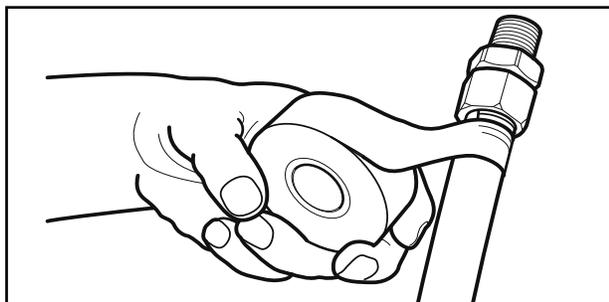

Figure: 4-5 Wrapping with self bonding silicone tape - begin on jacket.
- When installed outdoors, the plastic jacketing shall remain intact as much as practical for the given installation. Any portions of exposed stainless steel shall be wrapped with self bonding silicone tape sealing the fitting connection to prevent later corrosive attack by acid wash or chloride based compounds. (See Figures: 4-5 and 4-6).
- When **CounterStrike**[®] is installed in a swimming pool mechanical room or exposed to a corrosive environment which may be harmful to the tubing, all exposed portions of the stainless steel tubing shall be wrapped with self-bonding tape. (See Figures: 4-5 & 4-6)